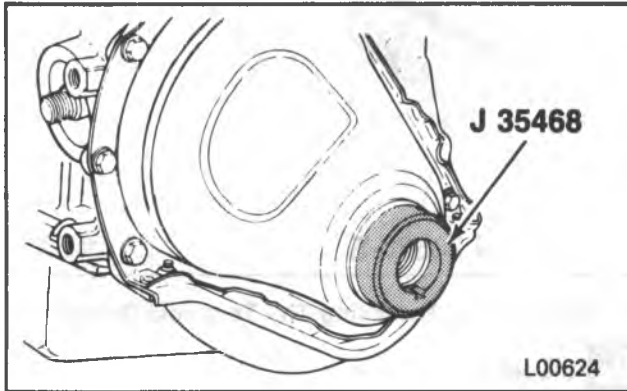

Figure 17 — Installing The Timing Gear Cover And Seal
Install or Connect (Figures 17 and 18)
1. Front crankshaft seal using J 35468 (figure 17). Coat the seal lips with engine oil. The open end of the seal faces toward the inside of the engine.
Install or Connect (Figures 17, 19 and 20)
4. Timing gear cover, with J 35468 in place, to the block (figure 17).